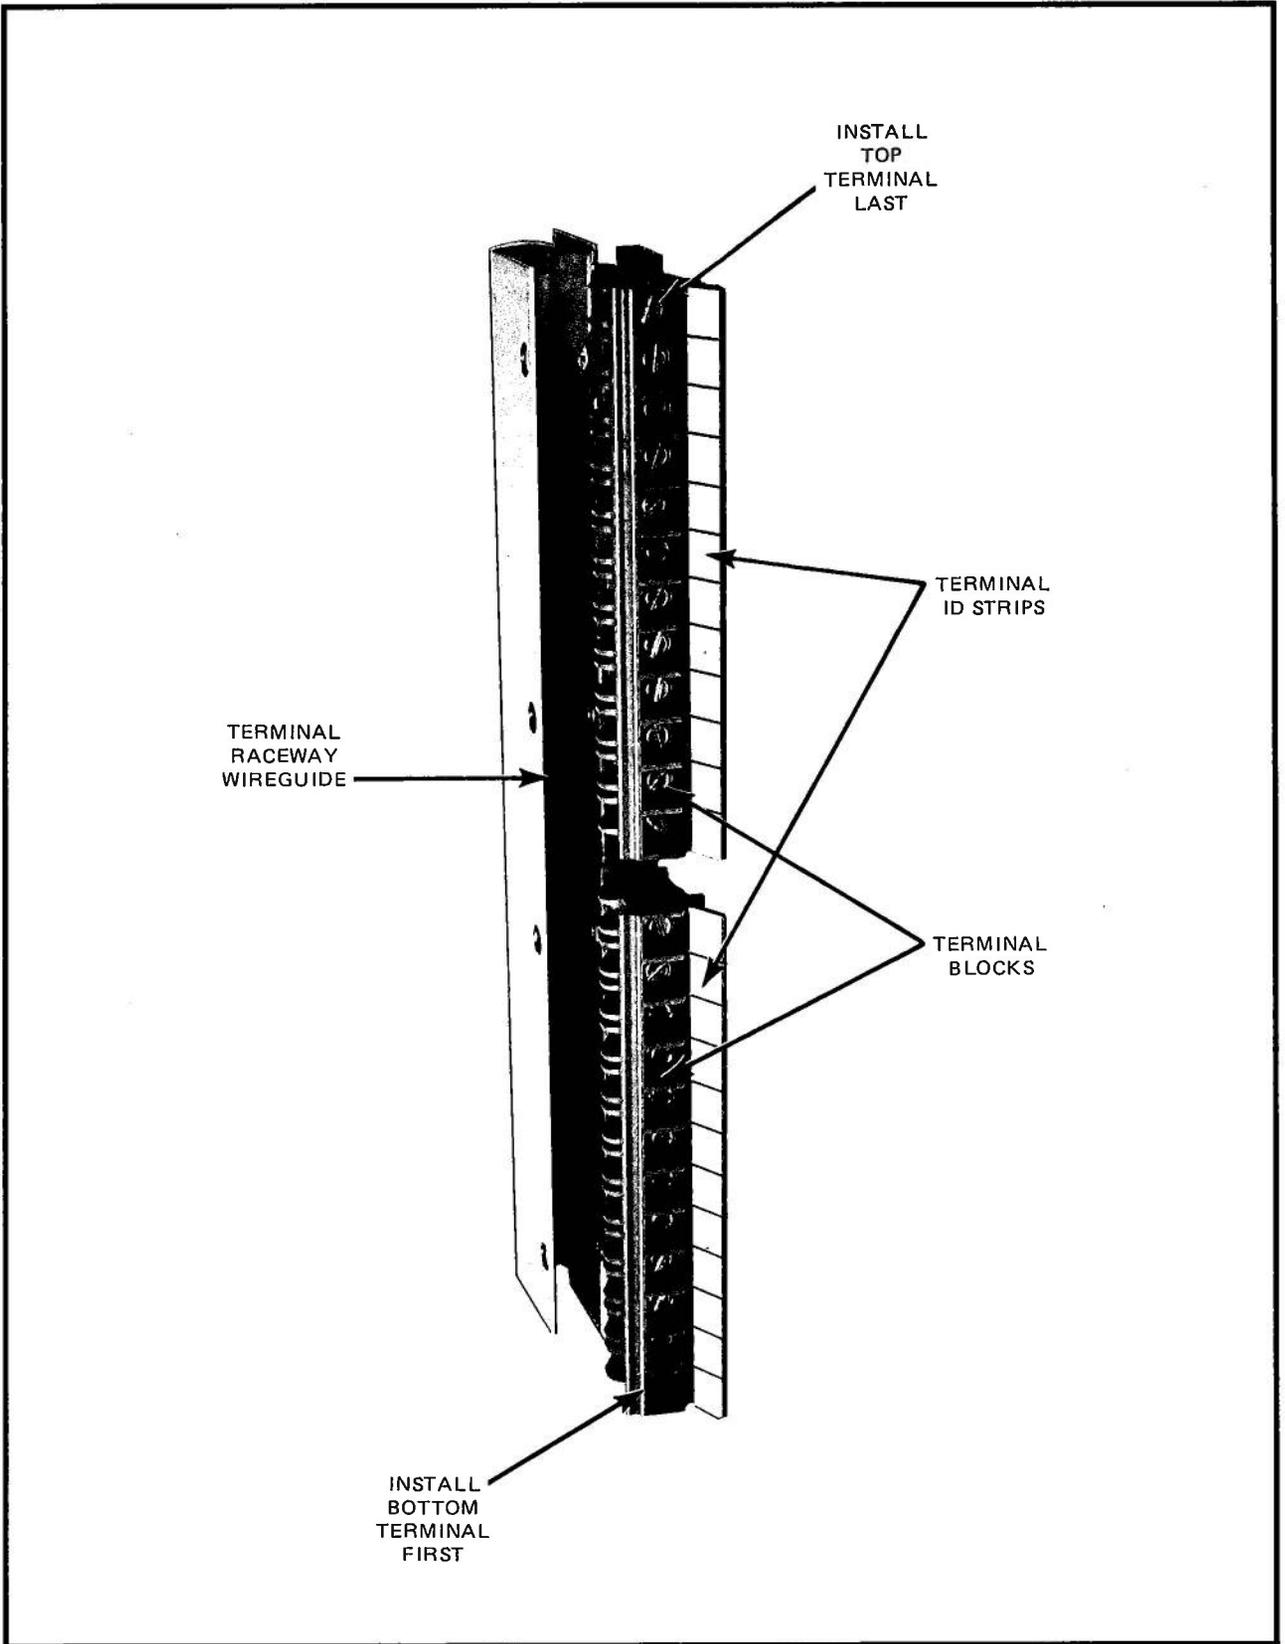

Figure 7-27. Terminal Raceway Assembly
The terminal raceway assembly is shown in Figure 7-27. Wiring to each module's terminal blocks is laid in this terminal raceway's wire
4. Locate each of the terminal raceways to be installed into the rack's plastic guides. Figure 7-27 shows the terminal raceway assembly. Determine each raceway assembly's position in the rack for the system drawings. These raceway assemblies are captive-on-installation. Figure 7-34 shows a raceway assembly installed into a rack.
7. Apply the terminal identification strip(s) supplied with each module to the surface of its corresponding raceway assembly terminal block. See Figure 7-27.